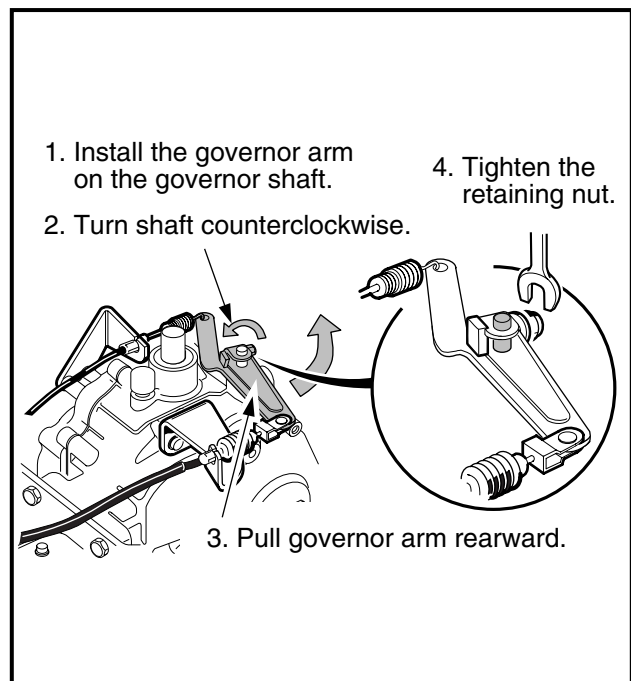

**Figure 16-41 Accelerator Cable Bracket**
- 6.2. Install two bolts (2) to secure cable bracket to the transaxle case and tighten to 134 in-lb (15.1 N·m).
7. Install the accelerator cable bracket to transaxle case and tighten screws to 134 in-lb (15.1 N·m) (Figure 16-41, Page 16-17).